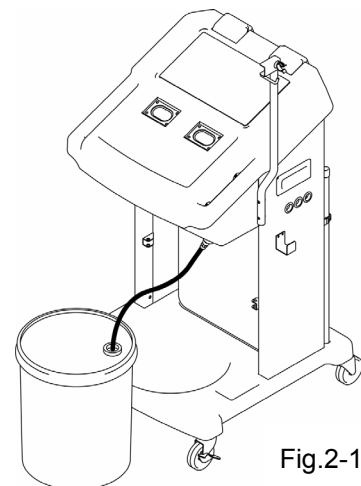

Fig.2-1
1. Take out the suction hose, and insert it into the new oil pail. (See Fig. 2-1.)